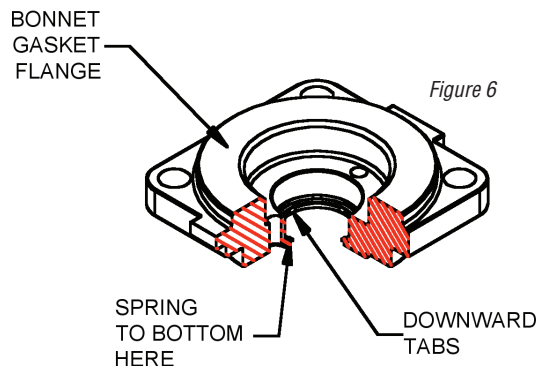

Figure 6
10. Lay the top cap (Part 9) upside down (the bonnet gasket flange upward). Hold the grounding spring (Part 8) so the tabs on the spring ID point downward. Insert the grounding spring into the top cap and push the grounding spring to the bottom of the center cavity in the top cap (Figure 6).